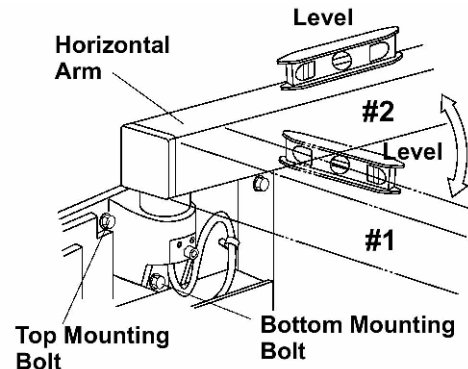

FIGURE 5.
1. Incorrect leveling of the wall plate and wall bracket can cause arm drift. First, check leveling with horizontal arm in position #1. **(FIGURE 5)** If not correct, bracket must be adjusted by placing shims behind the wall plate.
2. Check leveling in position #2. if not correct, adjust Horizontal Arm as follows : **(FIGURE 5)**